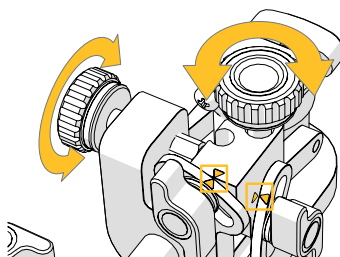

Figure 3: Adjusting the wheel for arrow alignment.
4. Adjust the rotational adjustment knobs so that the marked arrows in Figure 3 match. The nominal position of the arm is achieved by aligning the arrow heads.